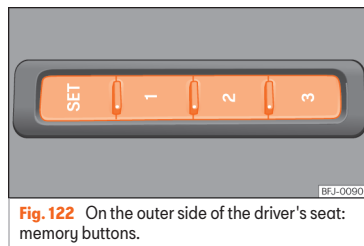

Fig. 122 On the outer side of the driver's seat: memory buttons.
- Press **SET** for longer than 1 second »» **Fig. 122.**
- Press and hold the **SET** button »» Fig. 122.